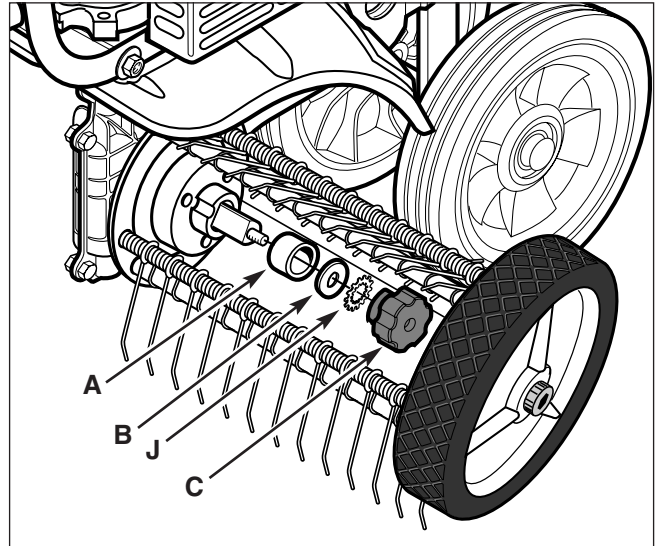
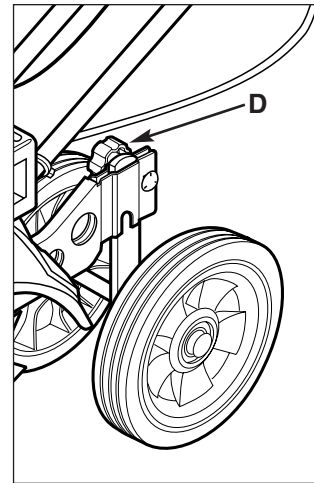

Figure 2
Figure 3
- Slide a 1-1/4" long spacer (A, Figure 2) over the tine shaft.
- Reinstall flat washer (B), external tooth lockwasher (J) and knob (C) removed previously. Tighten the knob securely.
- Loosen the wheel bracket knob (D, Figure 3) and remove the wheel/axle assembly from the bracket by sliding the assembly downward.
- Reinstall the wheel/axle assembly (Figure 3) and securely tighten the wheel bracket knob (D).